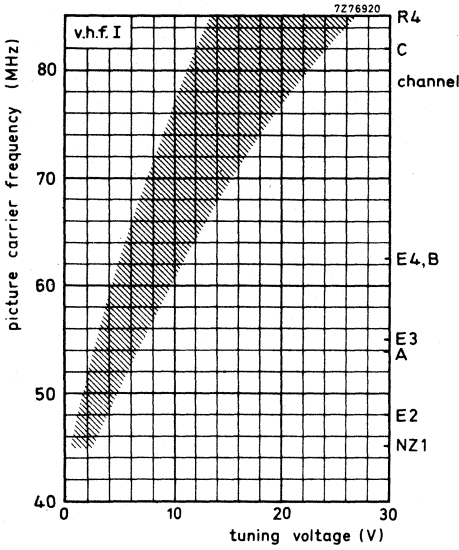

Fig. 8.
**Tuning voltage range (Figs 8, 9 and 10)**